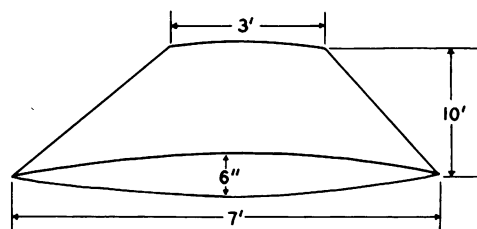

Figure 1D.—Supersonic wing.
54. The aspect ratio of the wing shown in figure 1D is approximately equal to
55. What type of airfoil is the wing shown in figure 1D?
56. What is the thickness ratio of the supersonic wing shown in figure 1D?